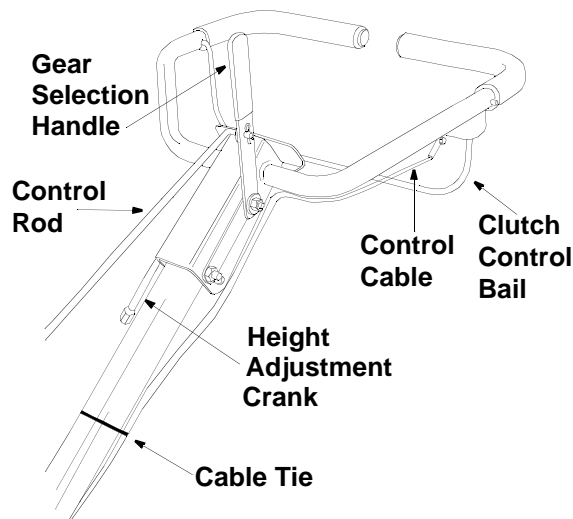

Figure 8
Secure drive cable to handle using cable tie. Refer to Figure 8. Cut off excess end of cable tie.
3. Insert the remaining end of the control rod through the hole in the gear selector handle and secure with hairpin clip. See Figure 8.
The gear selection handle is located in the center of the handle on the tiller. It is used to select NEUTRAL, REVERSE, or one of the FORWARD modes (see below). Pull or push the handle so that the indicator on top of shift cover points to the operating mode desired. See Figure 8.
The clutch control bail is located below the handle. See Figure 8. Lifting the clutch control bail against the handle engages the wheel and tine drive mechanisms.
HANDLE ADJUSTMENT (See Figure 8)